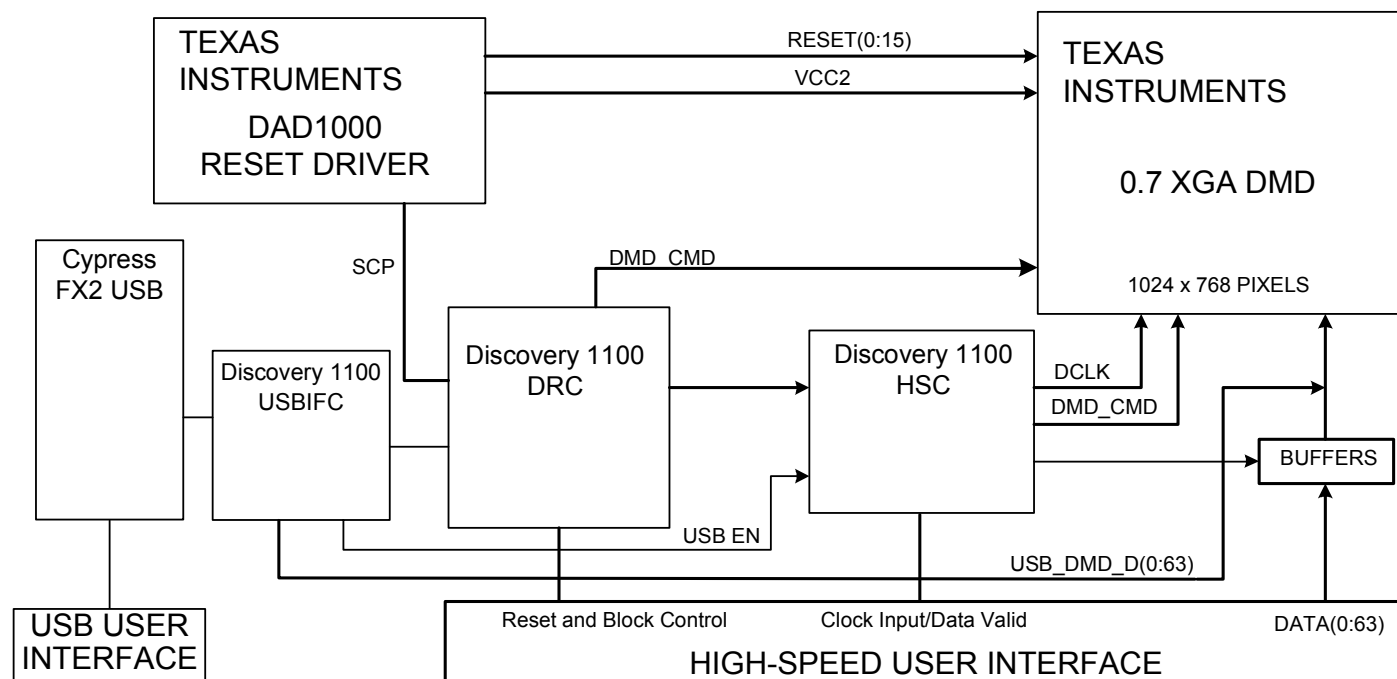
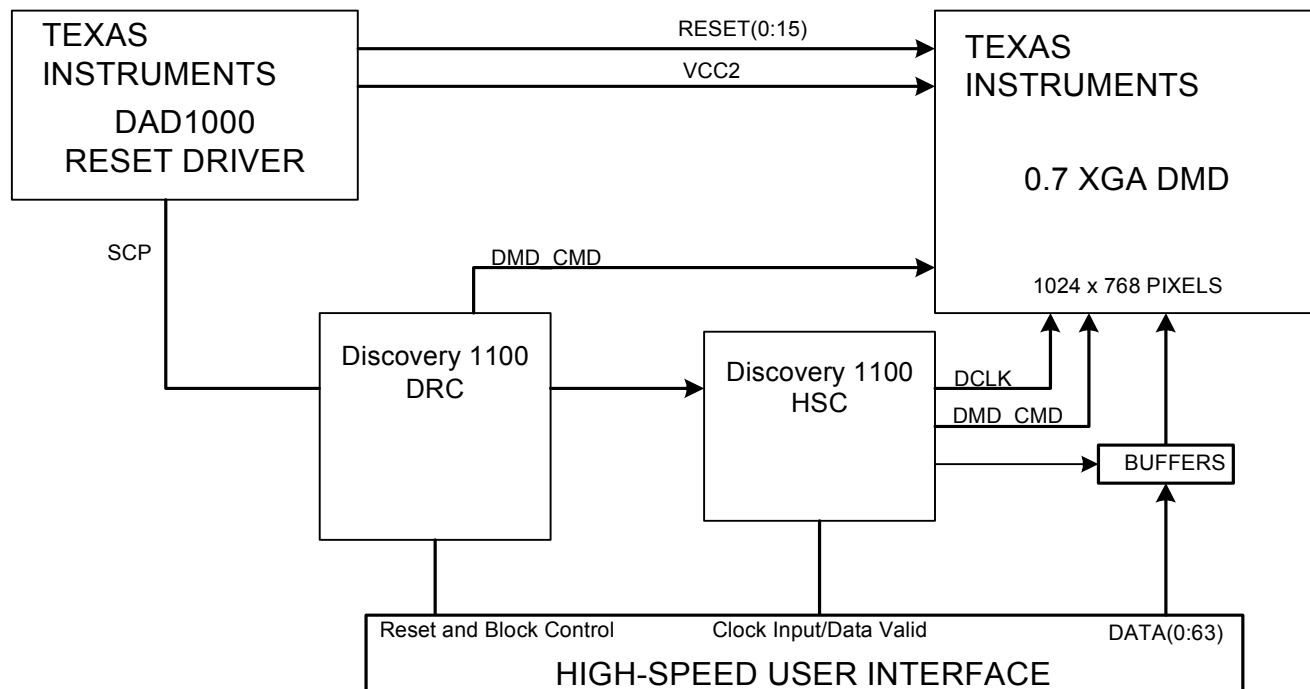

Figure 1 Discovery Block Diagram with USB
Figure 2 Discovery Block Diagram without USB
Shown below are two simplified block diagrams (Figure 1, Figure 2) showing the use of the Discovery 1100 HSC with and without the USB Controller and USBIFC.
The block diagram in Figure 1 is a typical system using both high-speed (HS) and USB interfaces. The DMD may be controlled from either the USB or HS interface. Buffers should be used in systems that have both USB and high-speed interfaces to separate the data busses to the DMD. The DRC provides initialization and reset logic required for the DAD1000 to drive the DMD mirror reset inputs.
The second block diagram (Figure 2) shows a typical system using only the high-speed interface. Buffers for high-speed data are not required, but recommended if data is driven from an off board source.